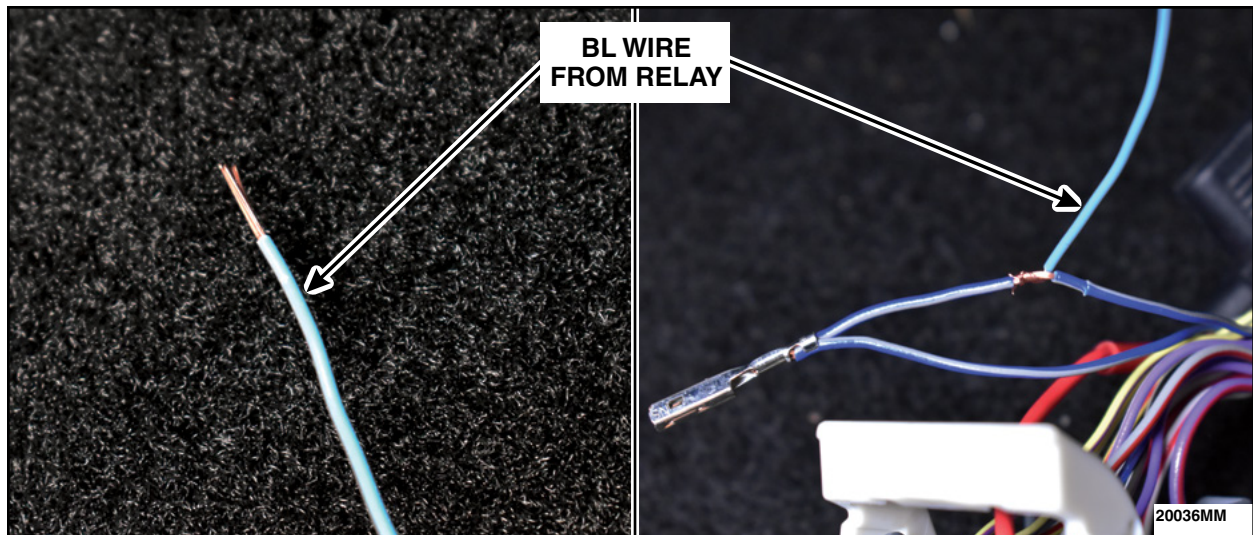

FIGURE 40
58. Strip the tip of the Blue (BL) wire from the relay and twist it into the Blue-White (BL-WT) wire from C2280A pin 6 to create an inline splice. See Figure 40.